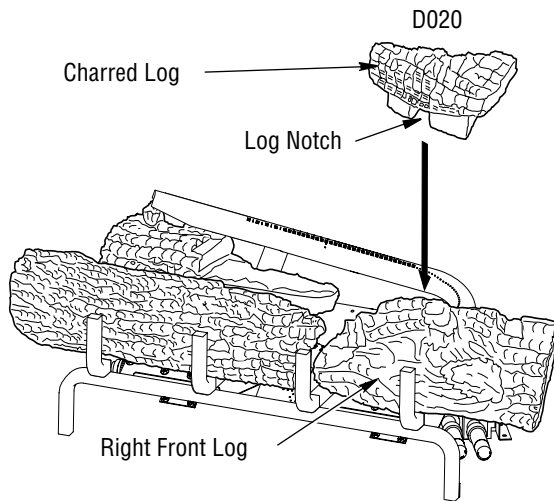

Figure 21 - Installing Charred Log
- Find the charred log (D-020). See **Figures 21, 21A, and 21B**. The log has a slot in the bottom that fits over the square grate and rests against the burner tube as shown in **Figure 21**. Place this log on the base as shown in figures.